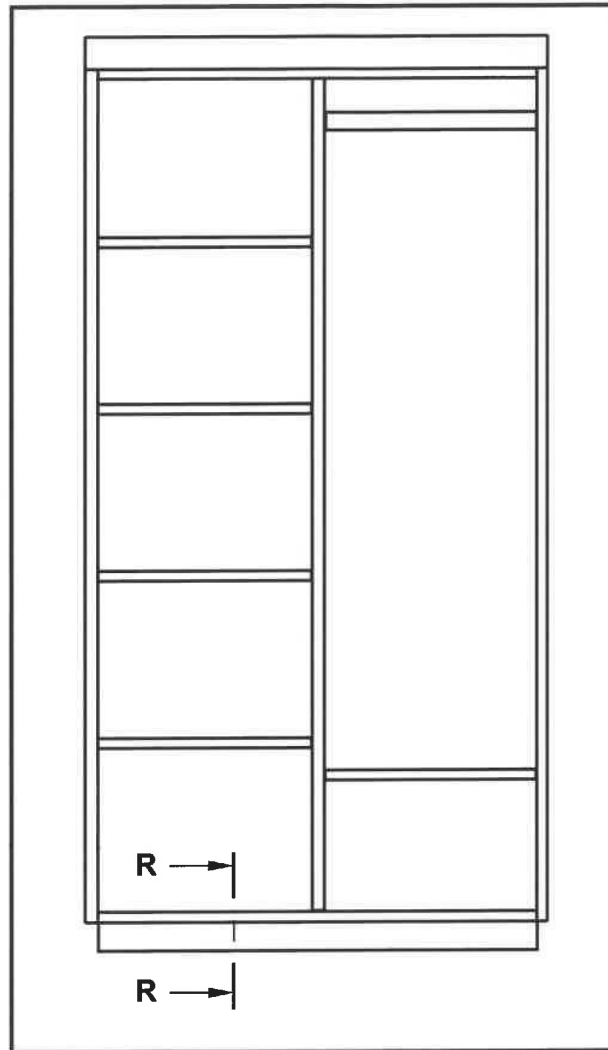

FIGURE 3.4
3.4 FIGURE 3.4 below shows the front view of a built-in cupboard without doors.